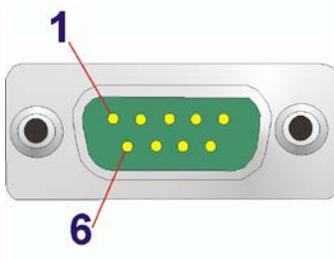

Figure 3-20: Serial Port Pinouts
- CN Pinouts:** See **Table 3-17** and Figure 3-20